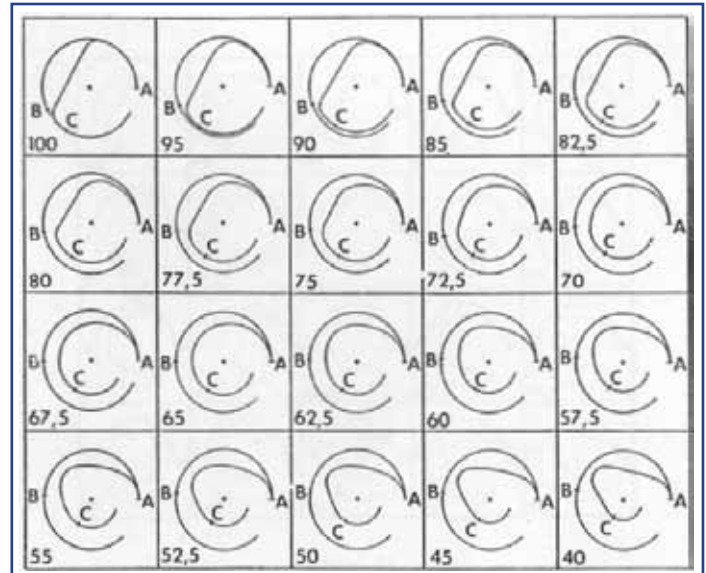
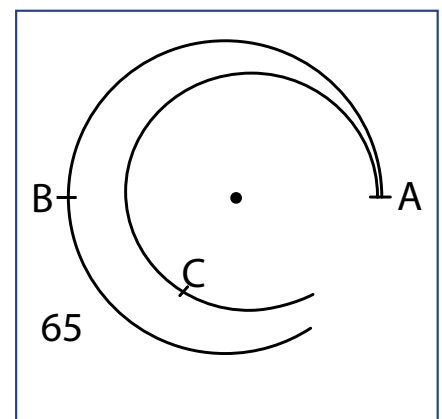

Figure 9
Figure 10
The Phillips Terminal Curve chart is used to determine the number of the curve found in the caliber 1570 and will be the template for terminal curve formation (Figure 9). Curve number (N) is found in the lower left corner of each box. What first must be determined are the hairspring radius (R) and the regulating pin radius (r). However, in this case (cal. 1570) there are no regulating pins so the radius (r) is the distance from balance axis to pinning point in the stud. Careful measurement of the hairspring and bridge gives these values:
The chart shown (Figure 9) is made for left-coiled curves. Charts are also printed in reverse for right coiled curves. Both are also made in incremental sizes to match various hairspring diameters. In the case of cal. 1570, the left-coiled chart of 6mm diameter springs is used (R = 3.00mm). The spring is laid on curve 65 with the vibrating point on B. From there, the form of the curve can be seen and duplicated (Figure 10). A preformed factory 1570 overcoil hairspring was laid on curve 65